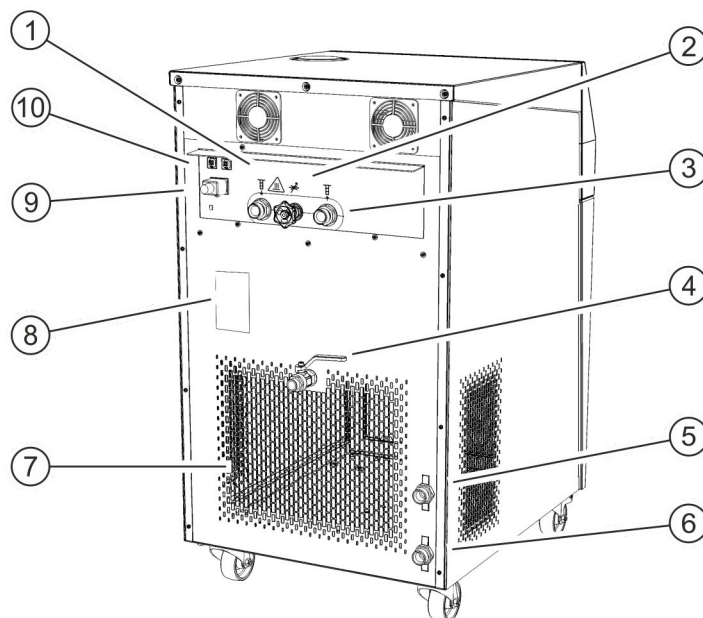

Fig. 6: Back of the VC 2000 W
9. **Fig. 6:** The ramp should be installed close to the pallet. Two persons should stand with their feet to the right and left of the ramp's guide rails to prevent them from slipping. Carefully push the device, front first ⑪, down from the transport pallet.